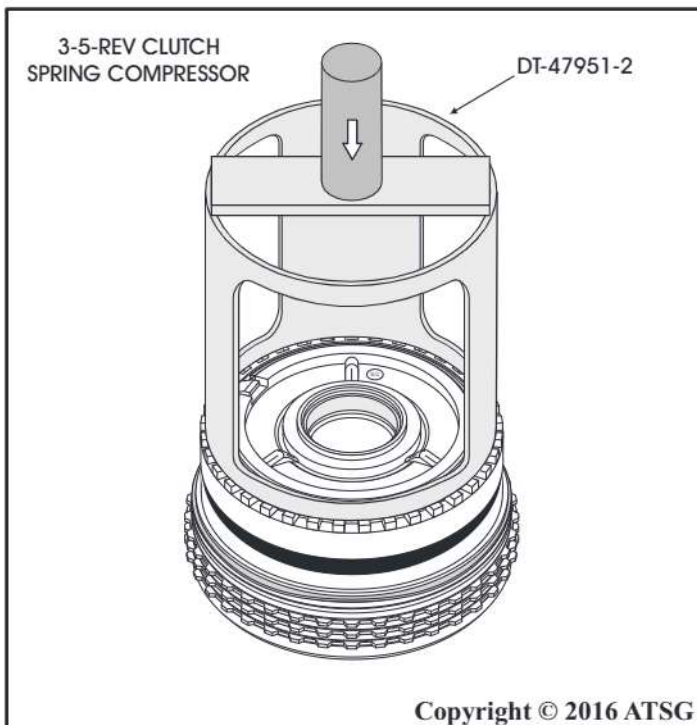

Figure 91
15. Compress the input speed sensor reluctor ring just enough to remove the snap ring using spring compressor tool, as shown in Figure 91.